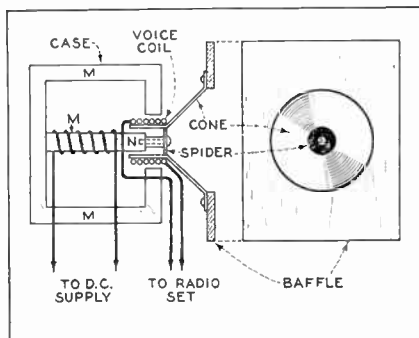

Fig. 29B.
A cross-section of such a unit is shown in Fig. 29B. A case (M) is built in the form of a cylinder with a large center core or pole piece MN. Over this many turns of fine wire (similar to that of an A.F. choke) are wound. The terminals of this coil connect to a D.C. source of supply. This source may be batteries, a separate rectifier, or in many cases this winding (called the field) is used as one of the chokes in the filter of the set's power pack. In any event, the core MN is magnetized. Over one end of the core, but separated from it by a gap, is placed a small coil, wound with a few turns of fine wire. This coil is called the voice coil and connects directly to the output of the radio set, through a step-down transformer, often built into the speaker. When a signal is impressed